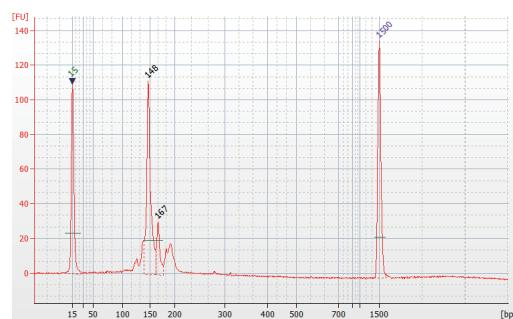

Fig. 4. The small RNA library of 1 μ g of total RNA of mouse liver tissues by magnetic beads.
12. Library Quality Determination Using an Agilent Technologies 2100 Bioanalyzer: Analyze 1 μ l of purified PCR product using an Agilent DNA 1000 chip or Agilent High Sensitivity DNA Chip. As shown in **Fig. 4**, the peak of miRNA library is at 143 bp - 147 bp.